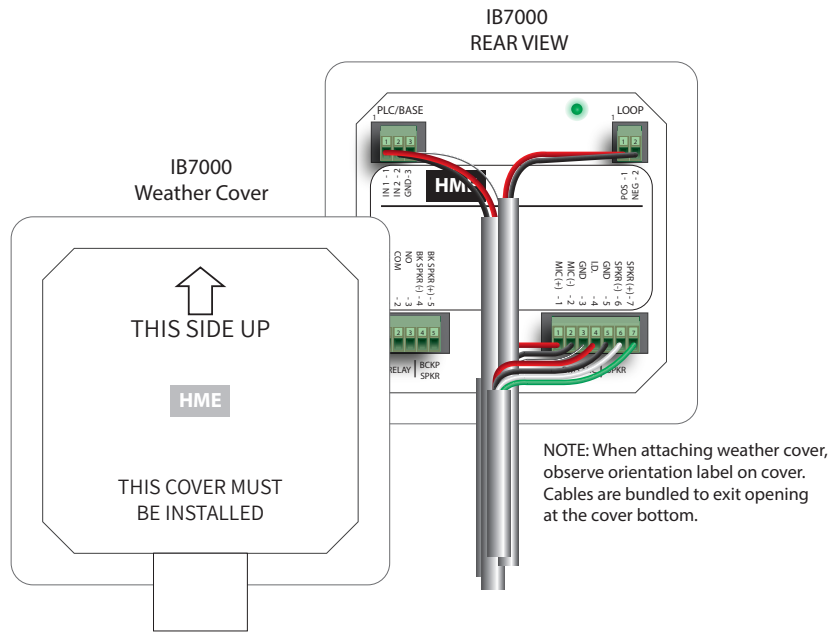

Fig. 7.2
The **IB7000** interface box is required when you are connecting the DM5 and SS7000 speaker or SP10 speaker to NEXEO. Adhesive strips allow the IB7000 to be affixed to a clean, dry surface inside the speaker post. The max IB7000 cable length to guarantee operation at max volume should not exceed 500 ft (152 m). Fig. 7.2 and also Fig. 2.12 (on page 10) shows how the IB7000 is typically connected.
Note: The cover must be oriented and installed the correct way to be effective (see Fig. 7.2).
1. Orient the weather cover correctly before installing (see the up arrow on the cover rear, Fig. 7.2 & 3).